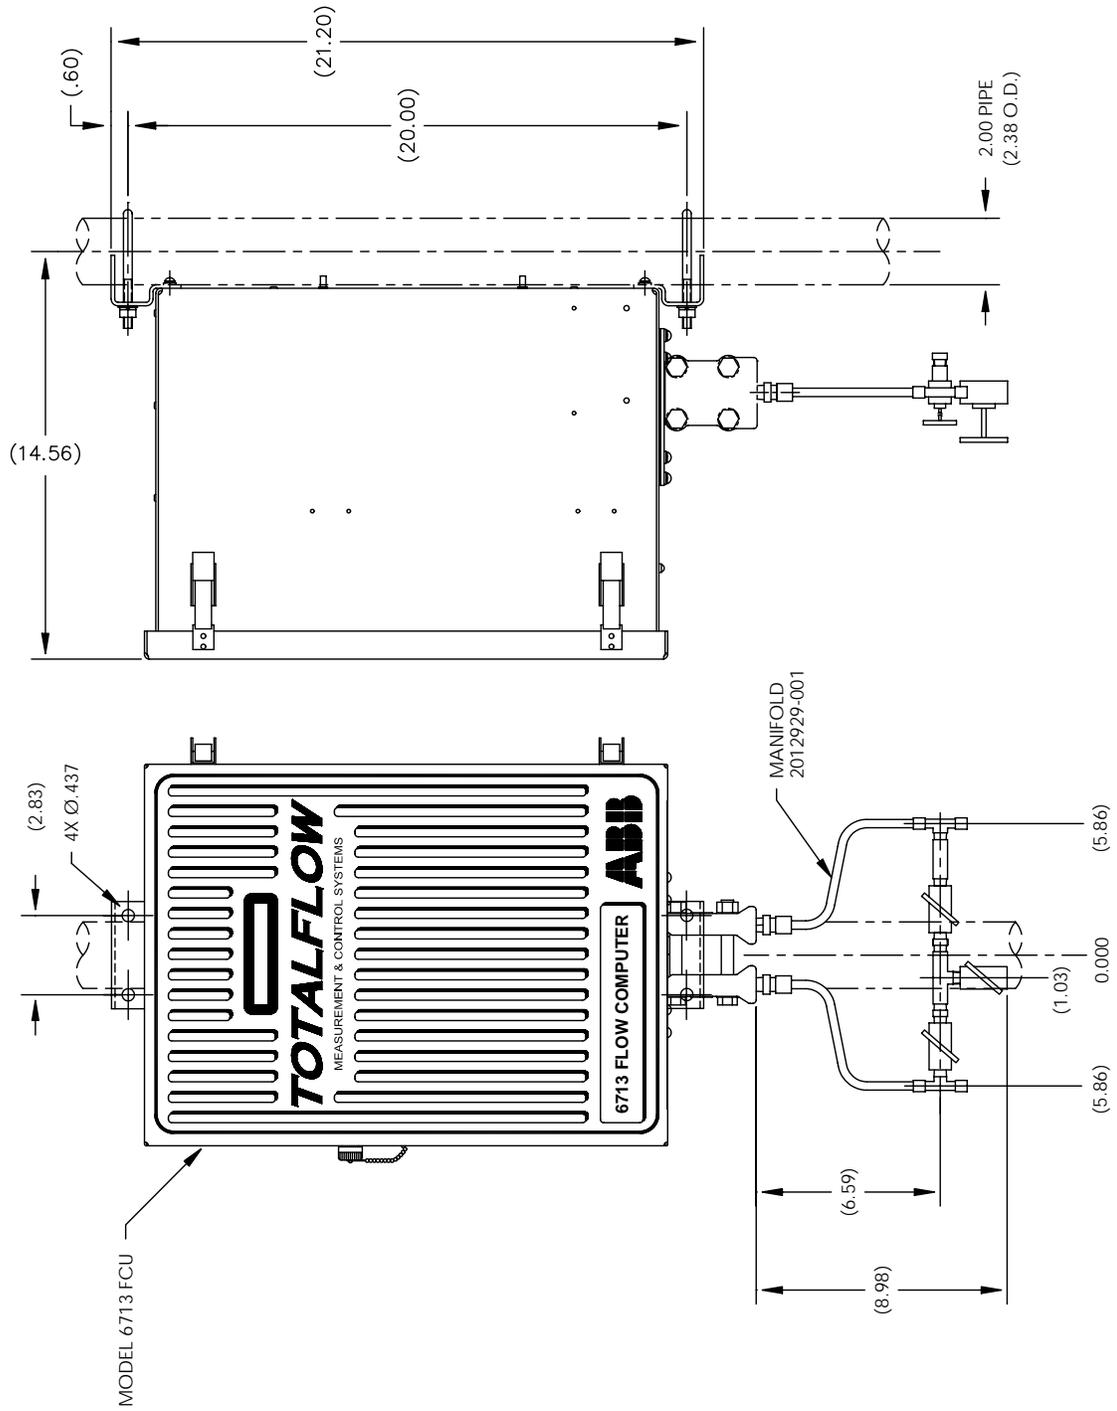

Figure 2.6 Model 6713, Pipe Mounting W/Discrete Manifold
1.	Referring to Figures 2-6 or 2-7 FCU Outline Drawings, drill mounting holes in wall supports.